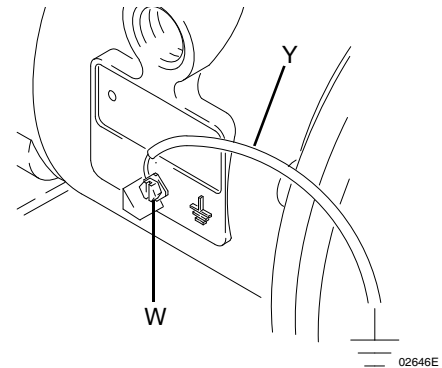

FIG. 2: Grounding
Pump: Connect a ground wire and clamp (Y) as shown in FIG. 2. To order a ground wire and clamp, order part number 238909. Loosen the grounding screw (W). Insert one end of a 12-gauge (1.5 mm²) or thicker ground wire behind the grounding screw and tighten the screw securely. Connect the clamp end of the ground wire to a true earth ground.